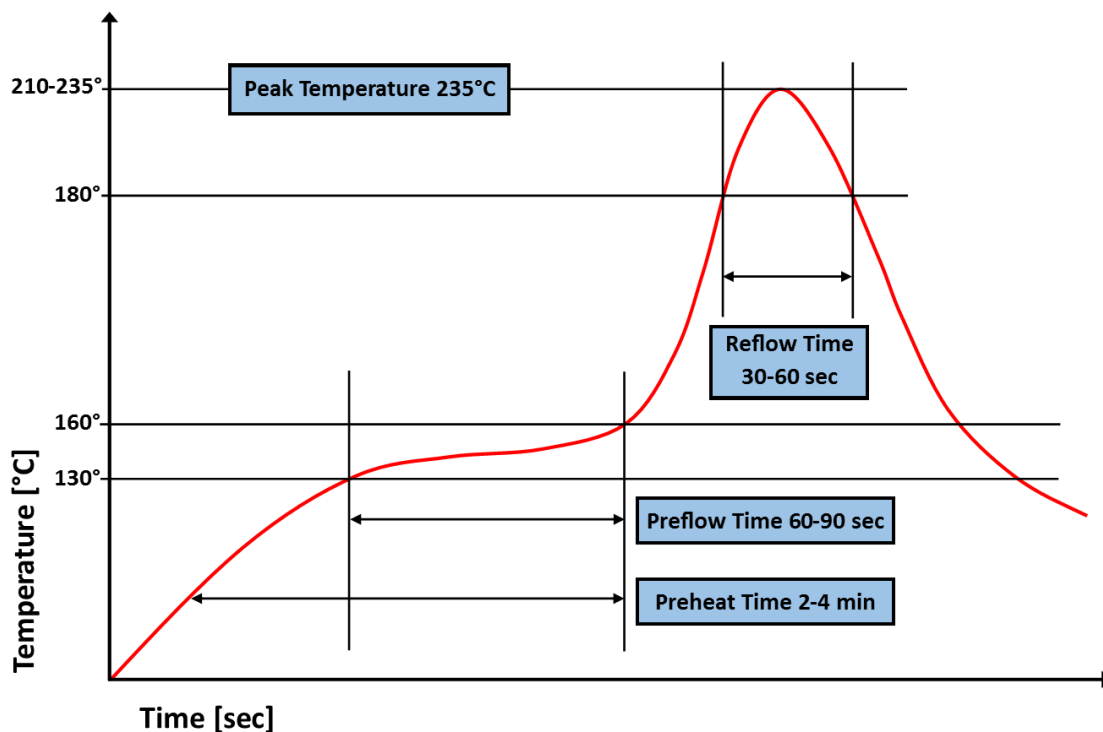

Figure 5 – Low Temperature Solder Reflow Thermal Profile
**Reflow:** The surface mount doherty combiner is conducive to most of today's conventional reflow methods. A low and high temperature thermal reflow profile are shown in Figures 5 and 6, respectively. Manual soldering of these components can be done with conventional surface mount non-contact hot air soldering tools. Board pre-heating is highly recommended for these selective hot air soldering methods. Manual soldering with conventional irons should be avoided.